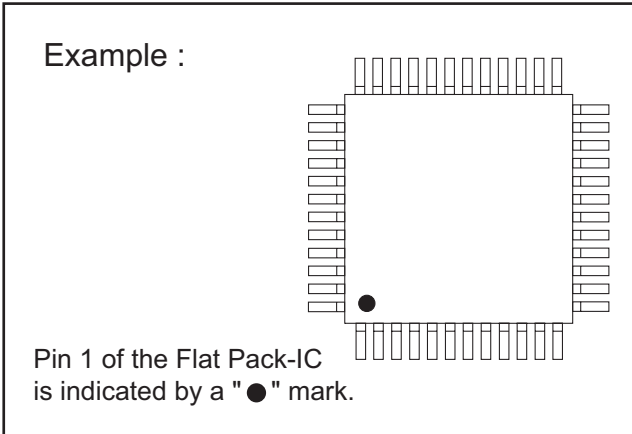
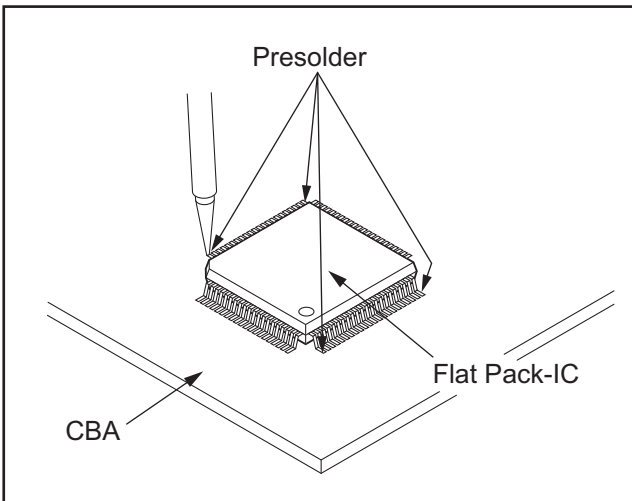

Fig.7
Fig.8
- (1) Using desoldering braid, remove the solder from the foil of each pin of the flat pack-IC on the CBA so you can install a replacement flat pack-IC more easily.
- (2) The "●" mark on the flat pack-IC indicates pin 1. (See Fig. 7) Be sure this mark matches the 1 on the PCB when positioning for installation. Then presolder the four corners of the flat pack-IC. (See Fig. 8)
- (3) Solder all pins of the flat pack-IC. Be sure that none of the pins have solder bridges.